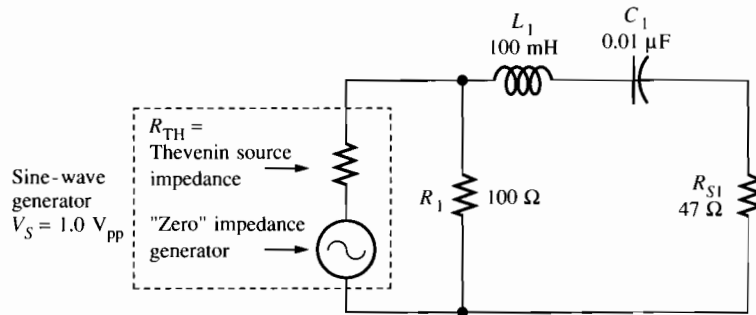

Figure 27-3
3. Construct the circuit shown in Figure 27-3. The purpose of the parallel 100 Ω resistor is to reduce the Thevenin driving impedance of the generator and, therefore, the total equivalent series resistance of the circuit.¹ Compute the total resistance of the equivalent series circuit. Note that looking back to the generator, R_{TH} is in parallel with R_1 . In equation form, the equivalent series resistance, R_T , is